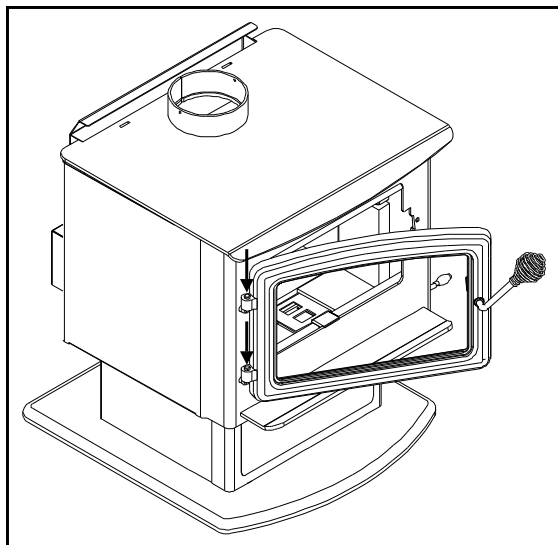

Figure 43: Installation Door onto Unit.
2. Place the door assembly on the two (2) hinge pins mounted on the body of the unit. Refer to Figure 43.